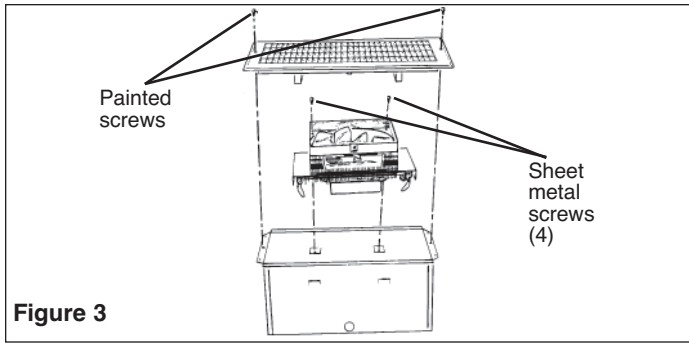

Figure 3
Slide heater assembly into the enclosure part way so the plug can be inserted into receptacle in junction box cover. After plug is fully inserted into receptacle, push heater down in position and secure with two (2) screws provided. (See Figure 3)
2. Place the grille over the enclosure and secure with the two painted screws provided as shown in Figure 3. (See Warning No. 7).